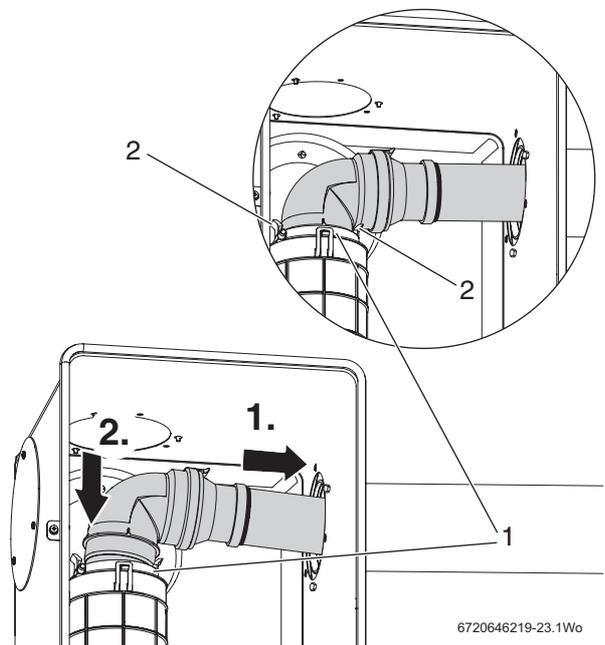

Fig. 19 Fitting the adaptor/elbow
1. Slide the adaptor into the inner flue tube of terminal as shown in figure 19.
2. Push the elbow into flue outlet until secured with the retaining clips (1) ensuring a good seal is made.